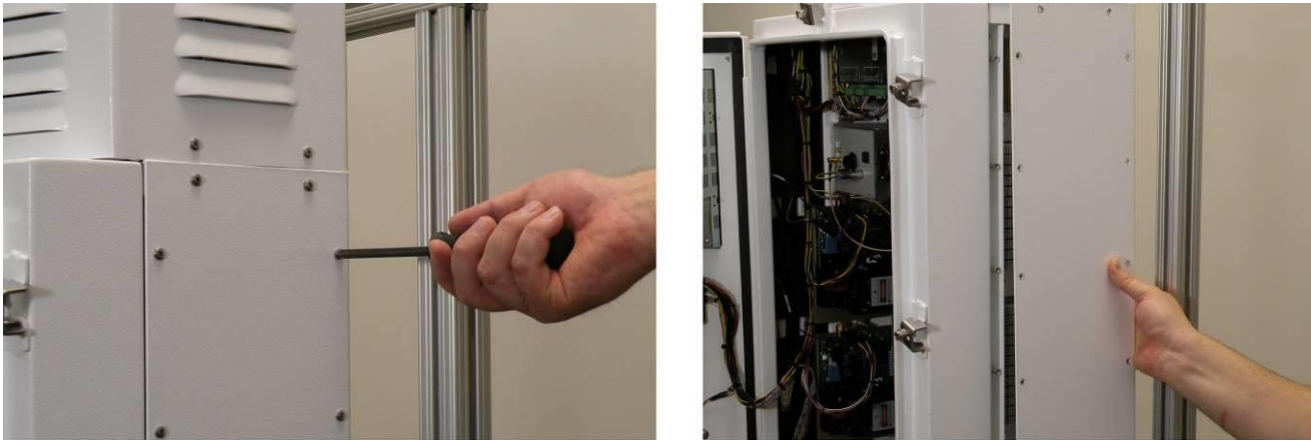

Figure 110. Removing screws and side cover
2. Remove 14 screws on the side panels and then remove the side cover (Figure 110).